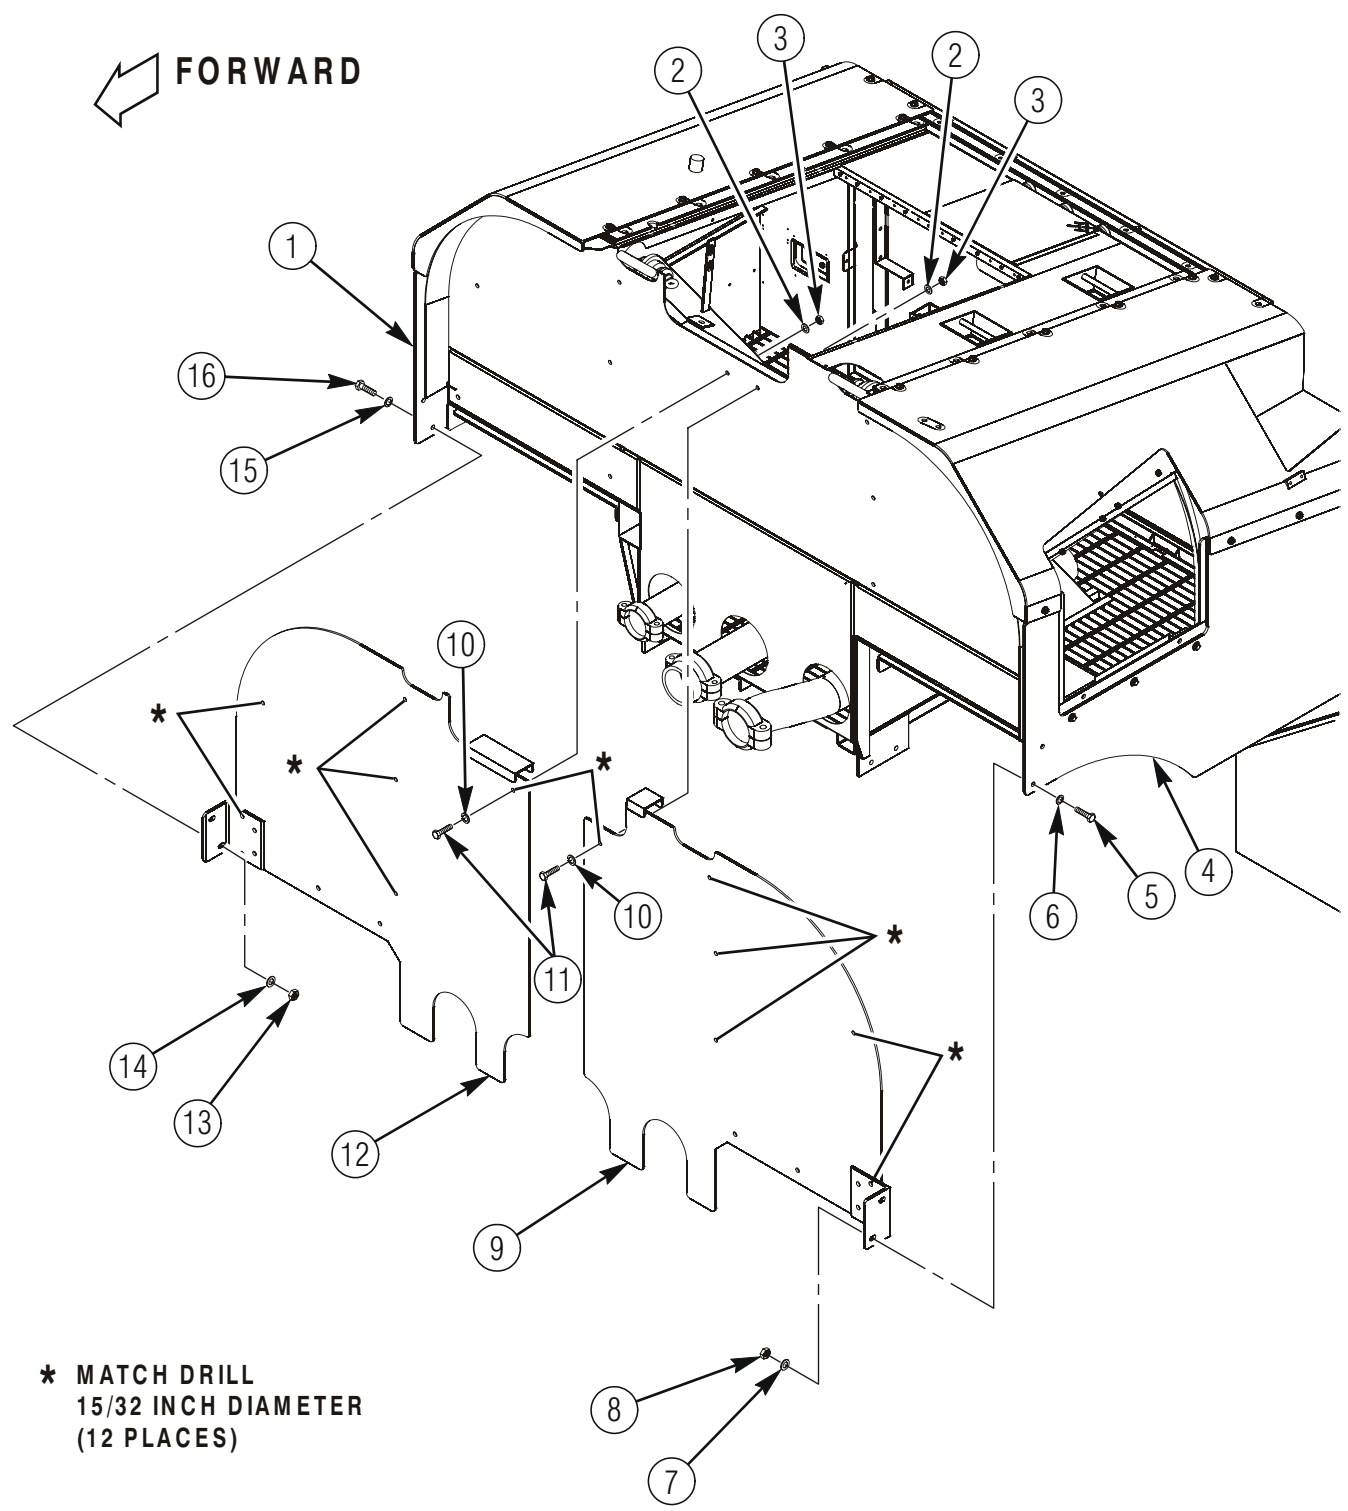

Figure 5.
1. Install 6433257-01M1 or 6433257-200M1 left front panel assembly (9) and secure to left lower side panel assembly (4) with two 4397000-382 capscrews (5), 4397004-009 lockwashers (6), 4397005-017 washers (7), and 4397064-007 locknuts (8) as shown in figure 5. Do not tighten locknuts (8) at this time.
2. Install 6433258-01M1 or 6433258-200M1 right front panel assembly (12) and secure to right lower side panel assembly (1) with two 4397000-382 capscrews (16), 4397004-009 lockwashers (15), 4397005-017 washers (14), and 4397064-007 locknuts (13) as shown in figure 5. Do not tighten locknuts (13) at this time.
3. Clamp front panel assemblies (9 and 12) in place as required, and match drill six 15/32 inch diameter holes through each front panel assembly (9 and 12) as shown in figure 5.
5. Secure each front panel assembly (9 and 12) with six 4397000-382 capscrews (11), 4397004-009 lockwashers (10), 4397005-017 washers (2), and 4397064-007 locknuts (3) as shown in figure 5. Tighten locknuts (3) to 60 lb-ft.
5. Tighten two locknuts (13) securing right front panel assembly (12) to right lower side panel assembly (1) to 60 lb-ft. Refer to figure 5.
6. Tighten two locknuts (8) securing left front panel assembly (9) to left lower side panel assembly (4) to 60 lb-ft. Refer to figure 5.